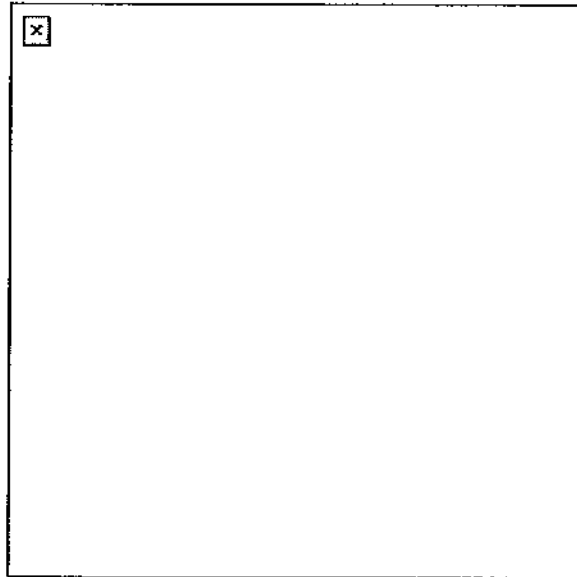

Figure 6. Prone position.
- a. Prone (Figure 6). To assume the prone position--
- (1) Lie flat on the ground, facing the target.
- (2) Extend your arms to the front, with your firing arm locked.
- (3) Wrap your nonfiring hand around either the wrist or the fingers of your firing hand.
- (4) Face forward. Keep your head down between your arms and behind the weapon.